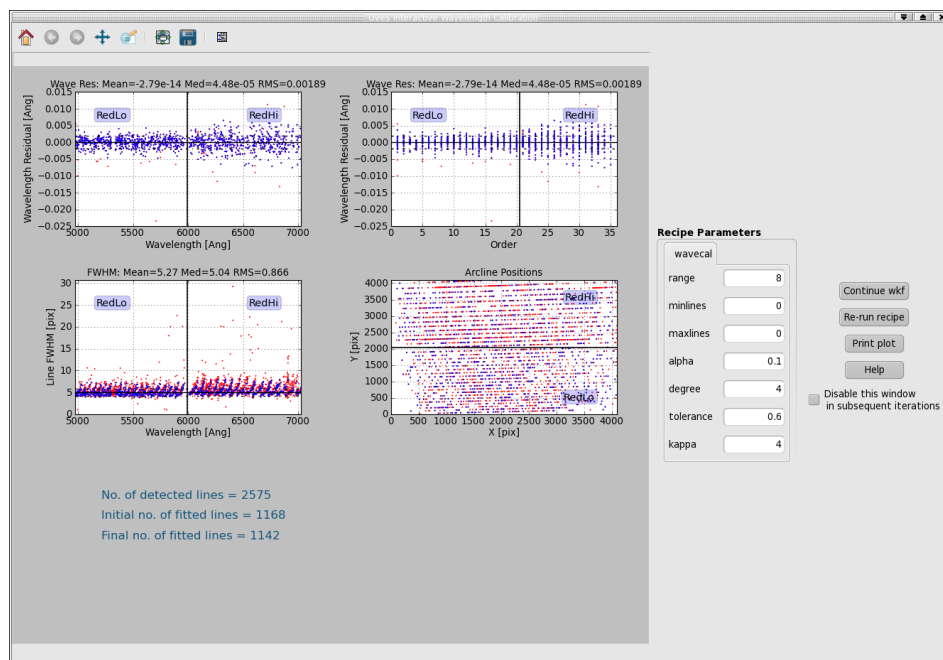

Figure 7.0.4: The interactive window for the Wavelength Calibration actor for the first DataSet in the data supplied with Reflex 2.1.
- Wavelength Calibration:** The next interactive window that will appear (see Figure 7.0.4) is associated with the execution of the Wavelength Calibration actor, which executes the UVES pipeline